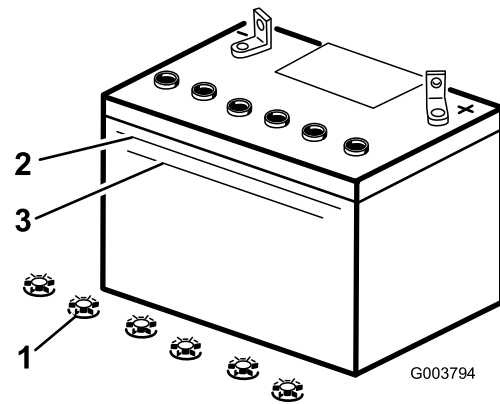

Figure 35
3. Look at the side of the battery. The electrolyte must be up to the Upper line (Figure 35). Do not allow the electrolyte to fall below the Lower line (Figure 35).
6. Remove the filler caps from the battery (Figure 35).
7. Slowly pour distilled water into each battery cell until the electrolyte level is up to the Upper line (Figure 35) on the battery case.
8. Wait five to ten minutes after filling the battery cells. Add distilled water, if necessary, until the electrolyte level is up to the Upper line (Figure 35) on the battery case.